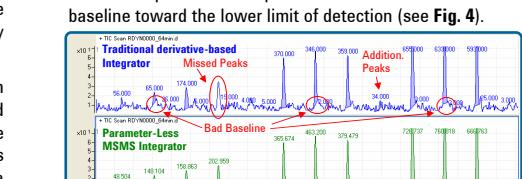

Fig 4. Traditional derivative-based integrators need tedious adjustment of integration parameters
**Step 6:** The integration algorithm then determines the baseline via regression analysis of a series of baseline points to the left and/or right of each peak, which were identified using the histogram in Step 2, and can be visualized in the chromatogram via boxes (Fig. 4, 5, 7).
Traditional derivative based integrators often divide the main peak into several peaks or miss peaks, and produce numerous peaks from spikes and disturbances on the baseline toward the lower limit of detection (see Fig. 4).